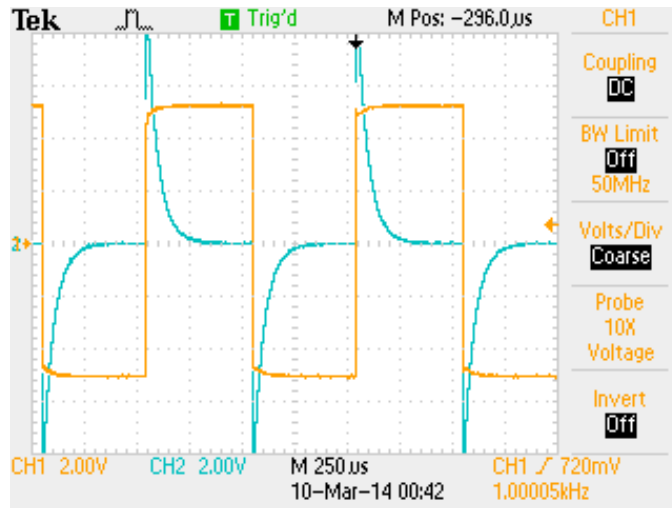

Figure 4: RC Circuit Trace
3. Use one probe to monitor the function generator output with the oscilloscope (as before), and connect the second probe into Channel 2 of the oscilloscope and use that probe to measure the voltage drop across the resistor. You'll need to press the blue "2" button. You should see something similar to Fig. 4.